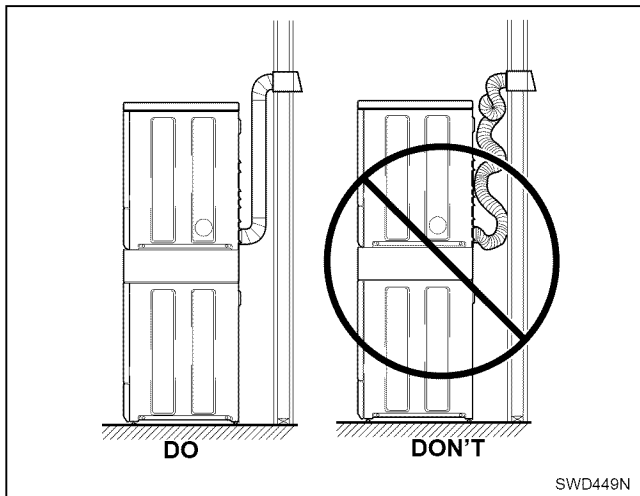

Figure 21
- DO NOT use plastic, thin foil or type B ducting. Rigid metal duct is recommended. Refer to *Figure 21*.